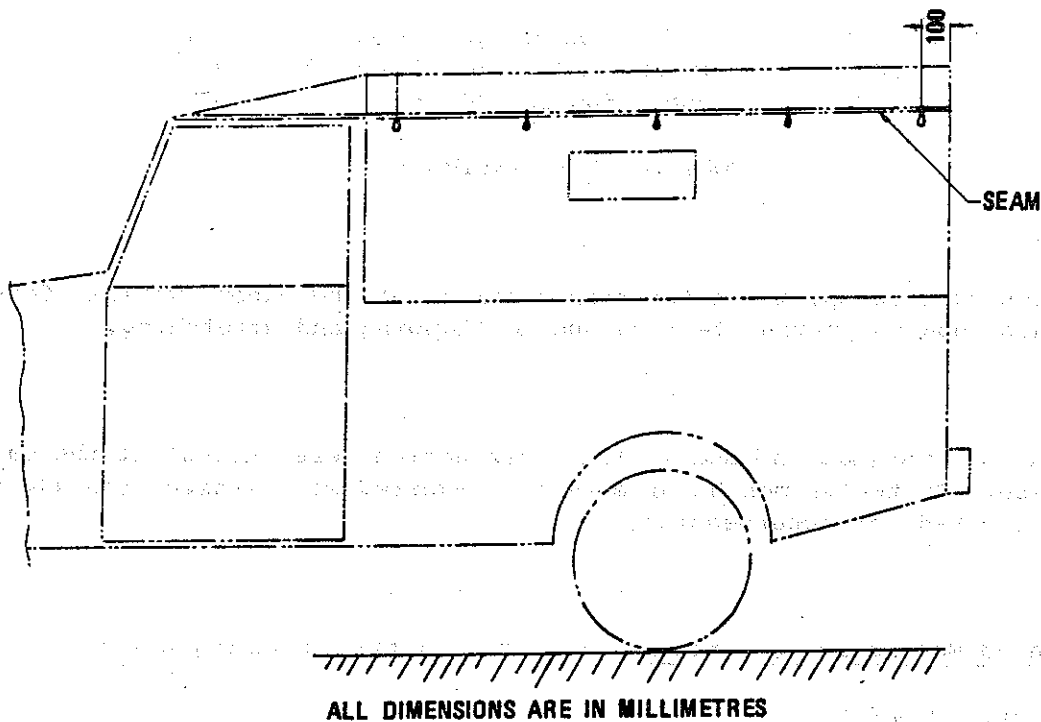

FIG 1 - POSITION OF REAR BOW REINFORCING STRIP
- b. Allowing for tucking, Cut a strip of CLOTH,COTTON,DUCK (Heavy Weight) at sufficient width to give 100mm width coverage over the bow and length to cover width of tarp from seam to seam (refer FIG 1)